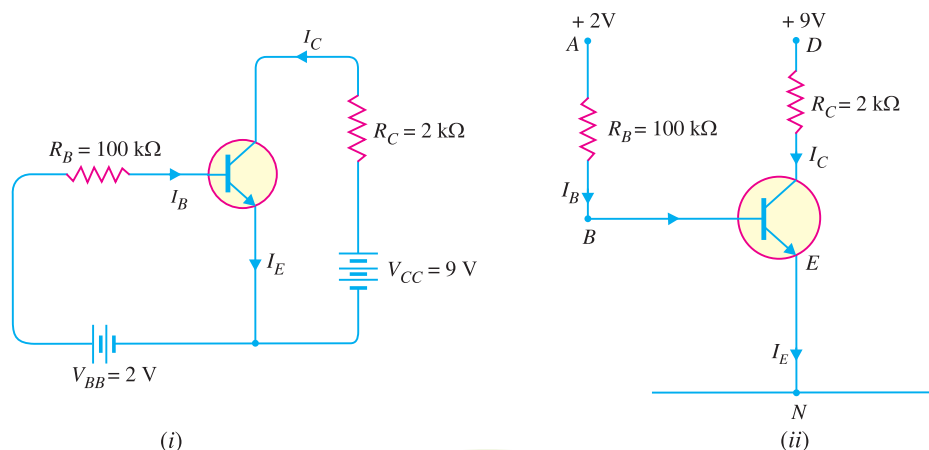

Fig. 9.7
**Example 9.3.** Fig. 9.7 (i) shows biasing with base resistor method. (i) Determine the collector current  $I_C$  and collector-emitter voltage  $V_{CE}$ . Neglect small base-emitter voltage. Given that  $\beta = 50$ .
In the circuit shown in Fig. 9.7 (i), biasing is provided by a battery  $V_{BB}$  ( $= 2\text{V}$ ) in the base circuit which is separate from the battery  $V_{CC}$  ( $= 9\text{V}$ ) used in the output circuit. The same circuit is shown in a simplified way in Fig. 9.7 (ii). Here, we need show only the supply voltages,  $+2\text{V}$  and  $+9\text{V}$ . It may be noted that negative terminals of the power supplies are grounded to get a complete path of current.
(i) Referring to Fig. 9.7 (ii) and applying Kirchhoff's voltage law to the circuit  $ABEN$ , we get,